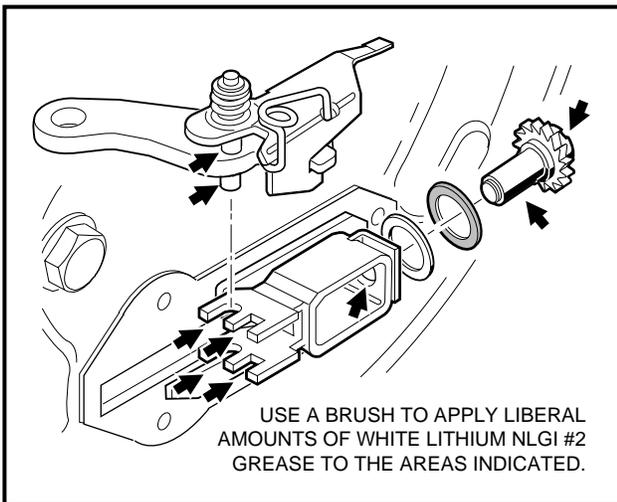

Figure 6-11 Apply Grease To Brake Adjuster
- Use a brush to apply a liberal amount of white lithium NLGI #2 grease (Dow Corning® BR2-Plus or equivalent) to the brake adjuster assembly, adjuster wheel shoe slots, and the shaft of the adjuster wheel as shown (**Figure 6-11, Page 6-6**). **See previous WARNING.**